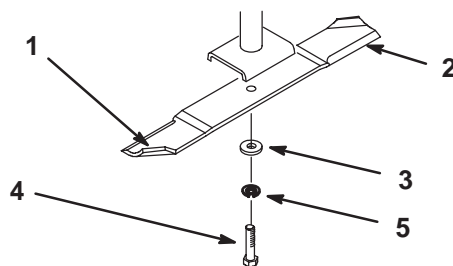

Figure 32
Hold the blade end using a rag or thickly-padded glove. Remove the blade bolt, flat washer, split lock washer, and blade from the spindle shaft (Fig. 32).
blade is not balanced, file some metal off the end of the sail area only (Fig. 32). Repeat this procedure until the blade is balanced.
1. Install the blade onto the spindle shaft (Fig. 32).
2. Install the flat washer, lock washer and blade bolt (Fig. 32). Torque the blade bolt to 85–110 ft.-lb. (115–150 N•m).